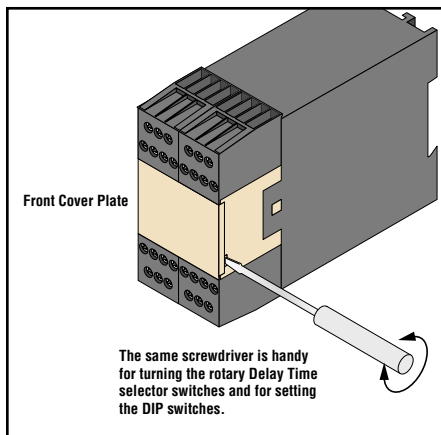

Figure 5. Use a screwdriver to gently pry the cover loose from the Module housing.
The E-Stop Safety Module also provides a necessary reset function. ANSI B11 and NFPA 79 standards require that a Reset routine be performed after returning the E-stop switch to its closed-contact position. This prevents the controlled machinery from restarting simply by closing the E-stop switch. Models ES-TN-1H5 and -1H6 may be configured for Automatic Reset via two DIP switches located inside the Module housing, under the front cover (see Figures 5 and 6). **Automatic Reset mode is useful for some automated processes. However, when Automatic Reset is used, an alternate means must be established to require a Reset routine after the E-stop switch is returned to its closed-contact position (see WARNING on page 9).**
The E-Stop Safety Module may be configured for Automatic Reset via two independent DIP switches, located inside the Module housing, under the front cover (see Figures 5 and 6) and by replacing the Reset switch with a jumper wire in the X1-X2 reset input circuit (see Figure 3).
The DIP switches and selector switches are located inside the Module housing, behind the front plate. Before adjusting any settings, turn OFF power to the Module. Remove the front plate by using a screwdriver in the slot on the right side and gently prying the cover away from the housing (Figure 5). Turn the rotary Delay Time selector switches to the desired position using the same small screwdriver in the slot on the arrow. Use the screwdriver blade to slide the DIP switches to their proper positions also.
3. Remove the E-Stop Safety Module front cover, (see Figure 5).